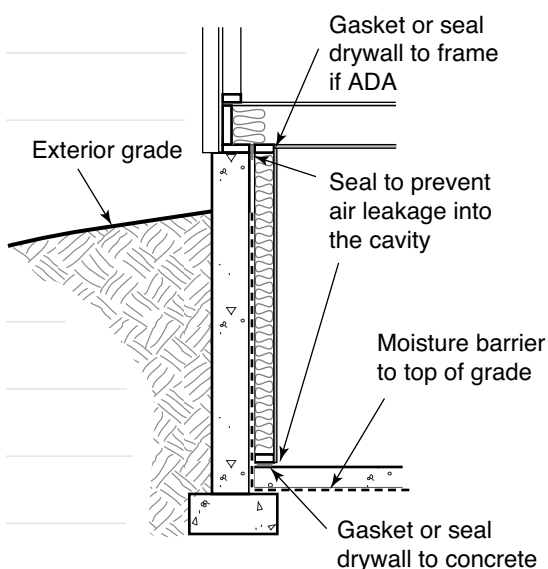

FIGURE 33
- ◆ Install a moisture barrier/damp-proofing on the interior face of the foundation wall to protect wood framing and insulation from moisture in the concrete. The barrier should extend from the base of the foundation wall to the level of the exterior grade (see Figure 33). Any membranes or coatings applied above grade must have a permeability of not less than $170 \text{ ng/Pa}\cdot\text{s}\cdot\text{m}^2$ ($2.95 \text{ grain/ft}^2\text{hr [in.Hg]}$).